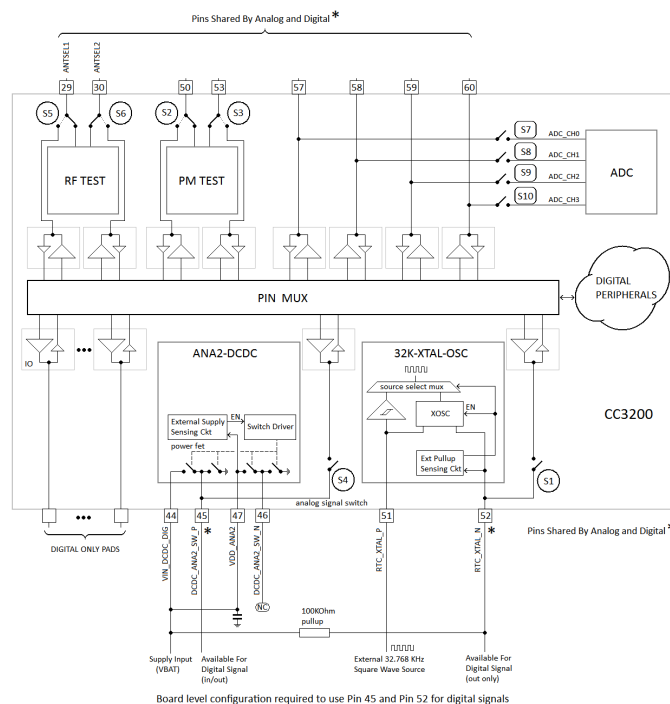

Figure 3-2. Board Configuration to Use Pins 45 and 52 as Digital Signals
(1) LPDS mode: The state of unused GPIOs in LPDS is input with 500 kΩ pulldown. For all used GPIOs, the user can enable internal pulls, which would hold them in a valid state.
(2) Hibernate mode: The CC3200 device leaves the digital pins in a Hi-Z state without any internal pulls when the device enters hibernate state. This can cause glitches on output lines unless held at valid levels by external resistors.
(3) To minimize leakage in some serial flash vendors during LPDS, TI recommends the user application always enable internal weak pulldowns on FLASH_SPI_DATA and FLASH_SPI_CLK pins.
(4) This pin has dual functions: as a SOP[2] (device operation mode), and as an external TCXO enable. As a TXCO enable, the pin is an output on power up and driven logic high. During hibernate low-power mode, the pin is in a high impedance state but pulled down for SOP mode to disable TCXO. Because of SOP functionality, the pin must be used as output only.
(5) Higher leakage current from the onboard serial flash can occur due to floating inputs when the device enters Hibernate mode. See reference schematics for recommended pull-up and pull-down resistors.
(6) For details on proper use, see Section 3.2, Drive Strength and Reset States for Analog-Digital Multiplexed Pins.
(7) This pin is one of three that must have a passive pullup or pulldown resistor on board to configure the chip hardware power-up mode. Because of this reason, if this pin is used for digital functions, it must be output only.
(8) This pin is reserved for WLAN antenna selection, controlling an external RF switch that multiplexes the RF pin of the CC3200 device between two antennas. These pins should not be used for other functionalities in general.
- (9) Device firmware automatically enables the digital path during ROM boot.
- (10) Pin 45 is used by an internal DC-DC (ANA2_DCDC) and pin 52 is used by the RTC XTAL oscillator. These modules use automatic configuration sensing. Therefore, some board-level configuration is required to use pin 45 and pin 52 as digital pads (see Figure 3-2). Because the CC3200R device does not require ANA2_DCDC, the pin can always be used for digital functions. However, pin 47 must be shorted to the supply input. Typically, pin 52 is used for RTC XTAL in most applications. However, in some applications a 32.768-kHz square-wave clock might always be available onboard. In such cases, the XTAL can be removed to free up pin 52 for digital functions. The external clock must then be applied at pin 51. For the chip to automatically detect this configuration, a 100K pull-up resistor must be connected between pin 52 and the supply line. To prevent false detection, TI recommends using pin 52 for output-only functions.
- (11) VDD_FLASH must be shorted to V_{supply}.
- (12) To use the digital functions, RTC_XTAL_N must be pulled high to V_{supply} using 100-KΩ resistor.
- (13) This pin is shared by the ADC inputs and digital I/O pad cells. Important: The ADC inputs are tolerant up to 1.8 V. On the other hand, the digital pads can tolerate up to 3.6 V. Hence, care must be taken to prevent accidental damage to the ADC inputs. TI recommends that the output buffer(s) of the digital I/Os corresponding to the desired ADC channel be disabled first (that is, converted to high-impedance state), and thereafter the respective pass switches (S7, S8, S9, S10) should be enabled (see Section 3.2, Drive Strength and Reset States for Analog-Digital Multiplexed Pins).
- (14) Requires user configuration to enable the ADC channel analog switch. (The switch is off by default.) The digital I/O is always connected and must be made Hi-Z before enabling the ADC switch.